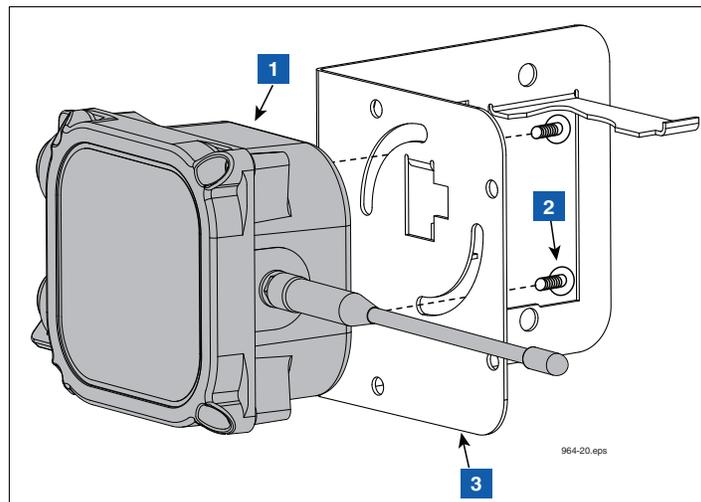

Figure 13. Attaching Transmitter to battery support bracket
3. Using two taptite screws from the kit, attach the Transmitter housing to the side of the battery support bracket that has the two circular slots (see Figure 13). Do not tighten screws at this time.
LEGEND FOR NUMBERED BOXES IN Figure 13